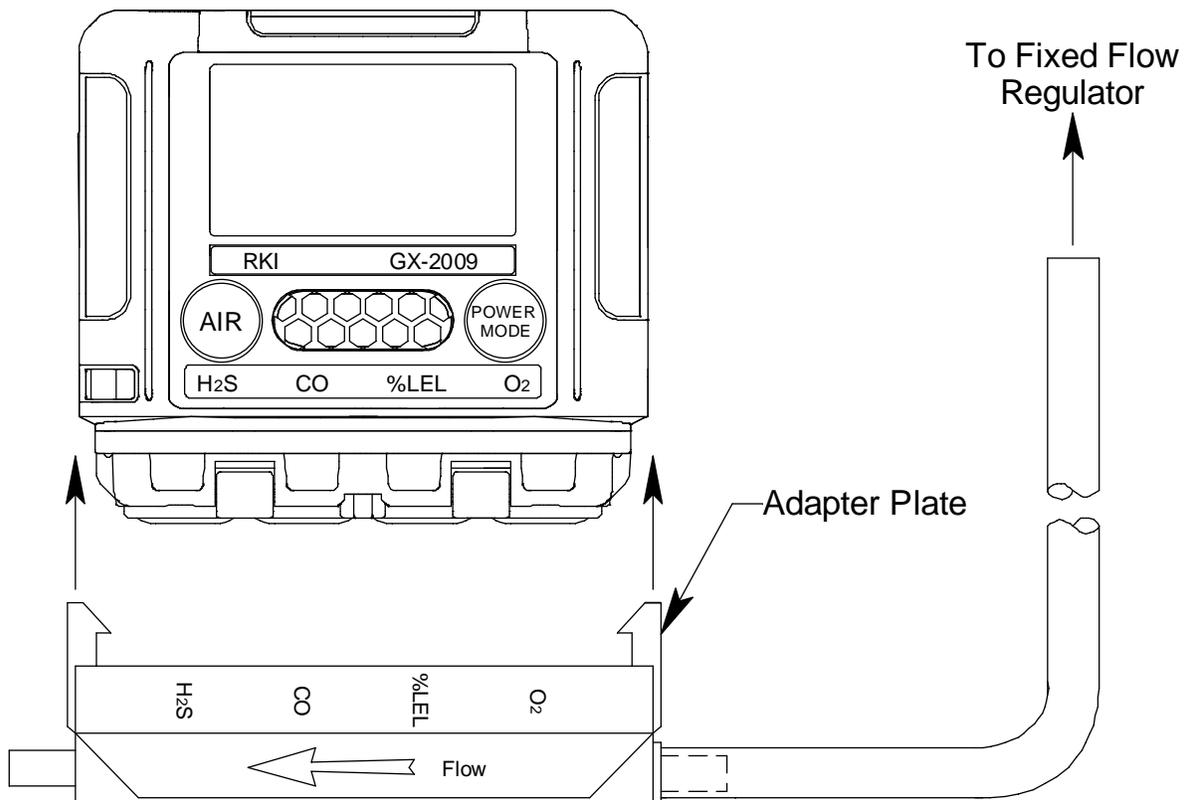

Figure 26: Installing the Adapter Plate, Auto Cal
9. Hold the GX-2009 in place with one hand while pushing the adapter plate onto the GX-2009's sensor face with the other to avoid moving the GX-2009 excessively and losing the connection to the computer. Make sure the adapter plate is oriented as shown in Figure 26 below with the sensor names on the adapter plate matching up with the sensor names on the instrument.